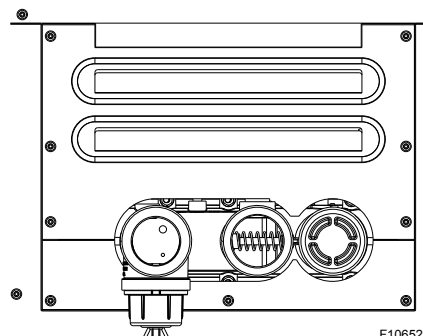

Figure 31. Access Panels
1. Remove right and left-side access panels. See **Figure 31**.